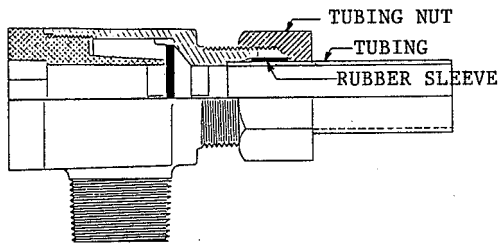

Figure 6
- 2.4.4 Apply a good quality pipe thread sealant to the threads on the new quick release valve, and screw into the element until the air connections are aligned. See Figure 6. Use a wide, flat faced wrench which will not crimp or damage the valve body.